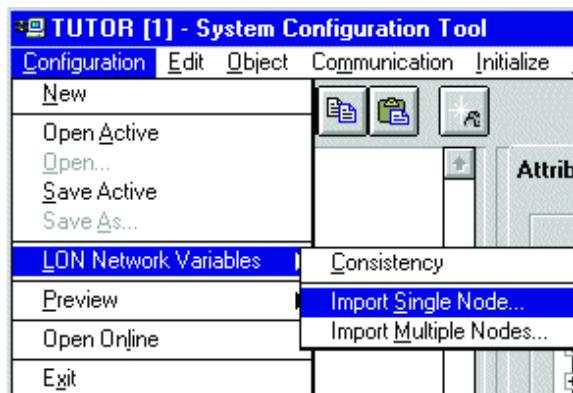

Figure 49: Single node data transfer will be started from LON Network Tool
2. From the menu bar, choose **Configuration/LON Network Variables**. See Figure 49.